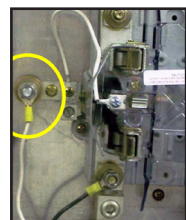

Figure 3
- B. Connect the neutral to the existing unused compression lug (Figure 3)